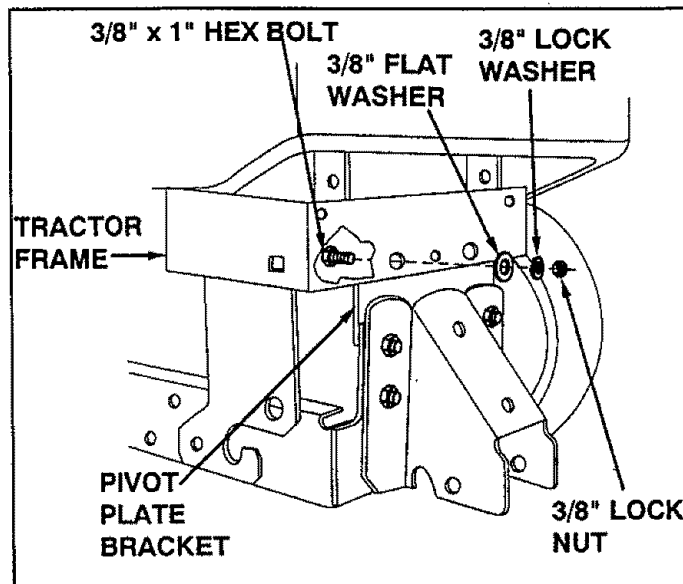

FIGURE 7
- Attach blade frame assembly to tractor frame by aligning holes in tractor frame to those in the pivot plate bracket. Secure using two 3/8" x 1" hex bolts, 3/8" flat washers, 3/8" lock washers and 3/8" lock nuts. **Tighten all items previously left untightened.** See figure 7.